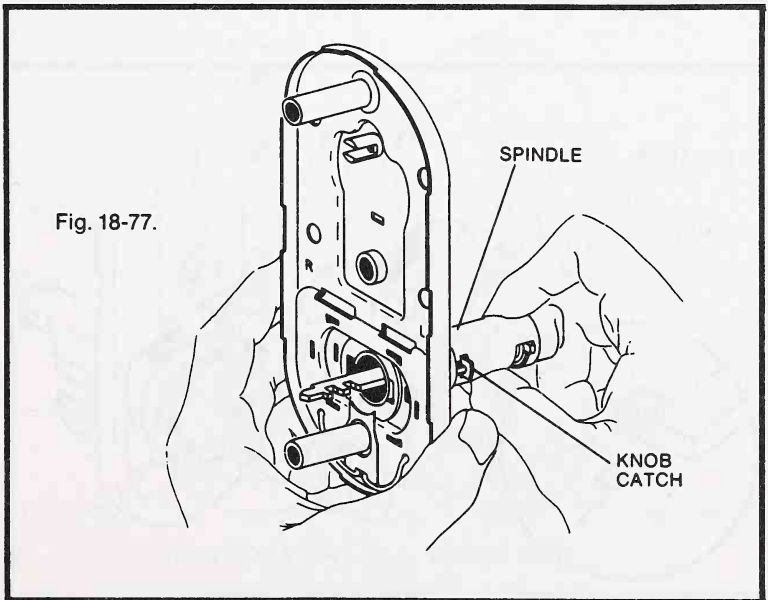

Fig. 18-77.
6. Rotate the spindle 180° to relocate the knob catch (Fig. 18-77).